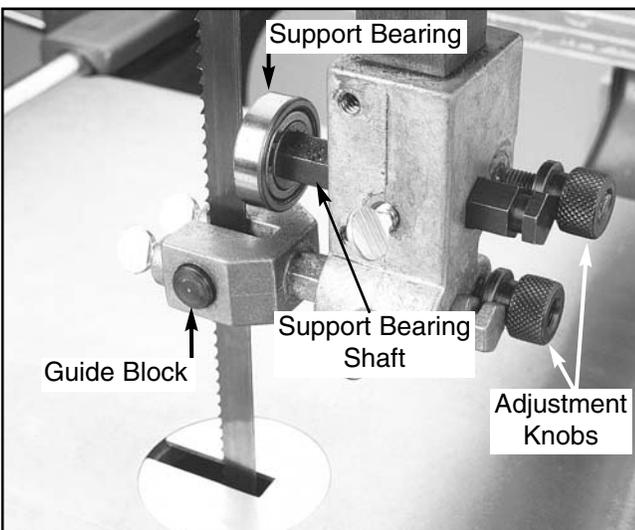

Figure 18A. Upper guide assembly.
Always adjust the assemblies away from the blade before installing a new blade or making blade tracking adjustments. After blade tension and tracking are set correctly, readjust the upper and lower support bearings and guide block assemblies into position. See **Figure 18A** control locations.
2. Loosen the thumbscrew that secures the support bearing shaft and unscrew the adjustment knob that controls the support bearing shaft. See **Figures 18A/B** for locations.